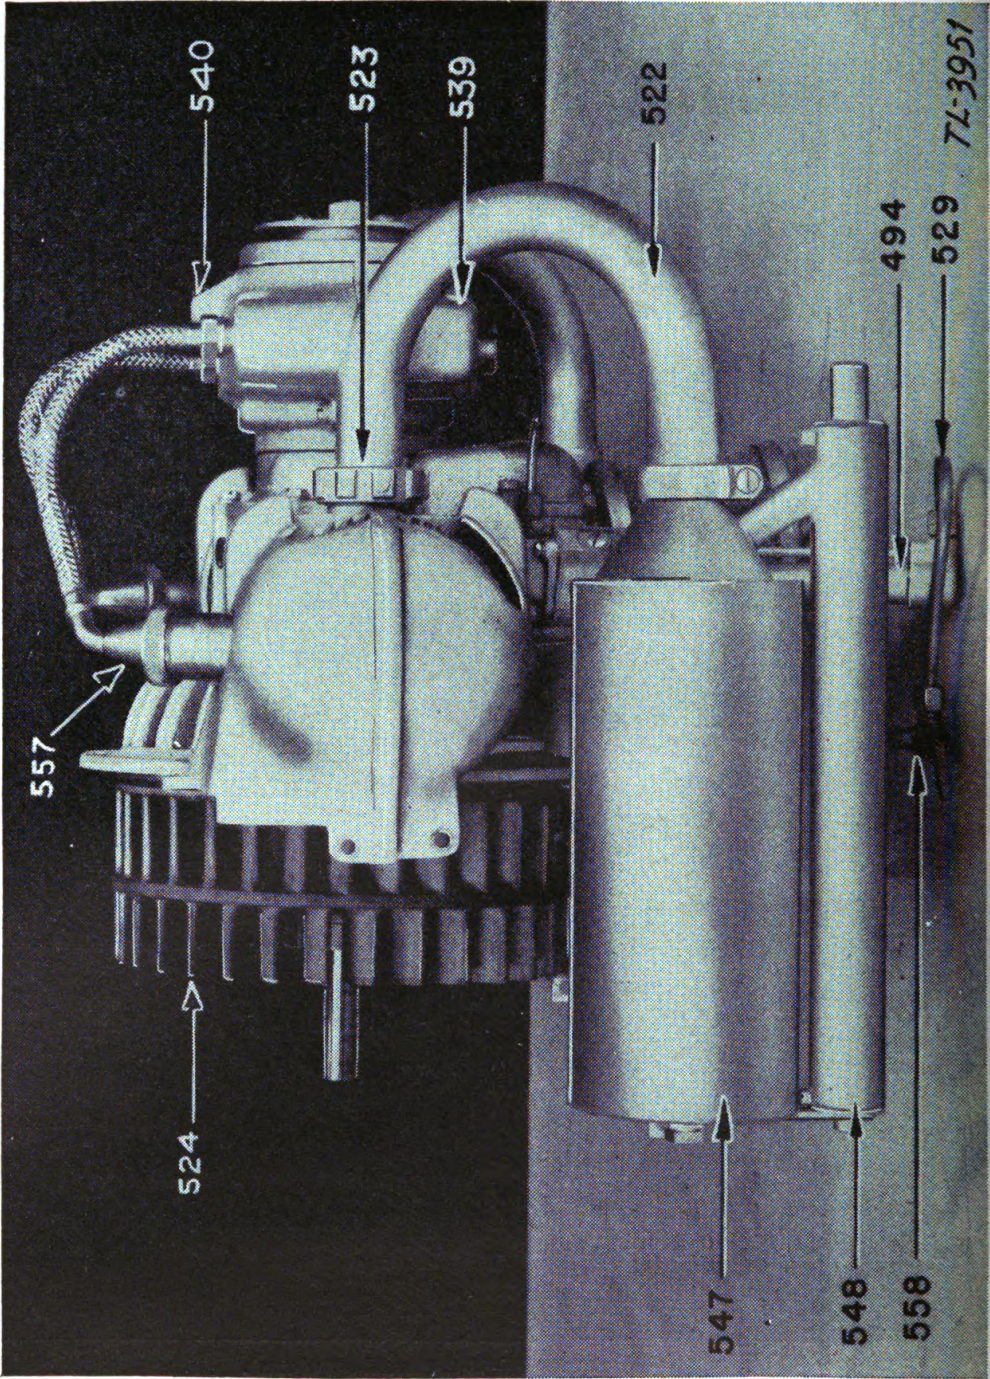

FIGURE 2.—Engine assembly.
2. Integral components of power unit.—*a. Gasoline engine.*—The gasoline engine supplied is a Homelite Corporation model HTR, 3,600 rpm, 2-cycle, 2-cylinder, air-cooled, horizontally opposed type, firing simultaneously (see fig. 2). A starting rope with grip is used for placing the engine in operation.
(3) Open shut-off cock (558, fig. 2) beneath fuel tank as indicated.